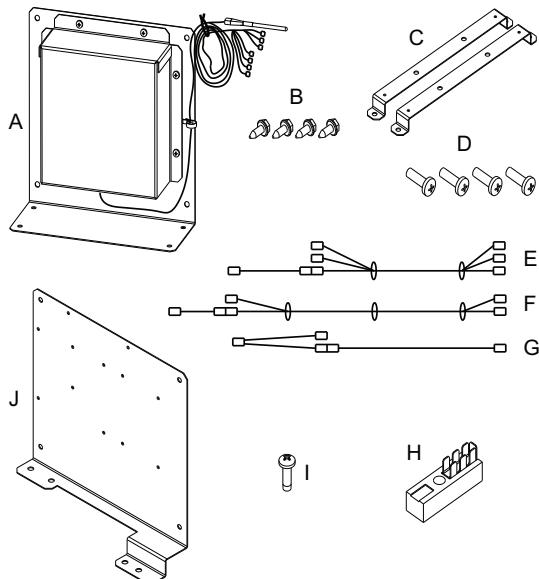
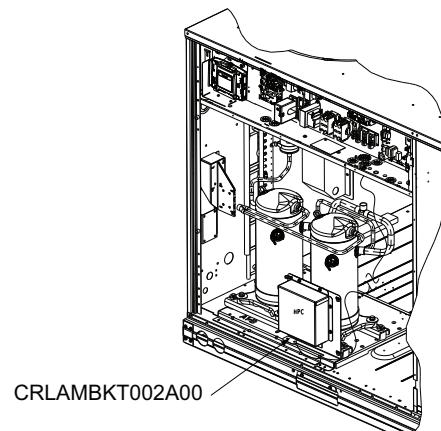

Fig. 1 — Controller Assembly Kit Details
Fig. 3 — Cabinet A — Controller Installation Locations
The head pressure control kit in this application is only to be used with an approved condenser motor. The hard start knob setting and the cut-out speed knob are to be set to minimum for proper functionality. See Fig. 1 and Table 1 for controller kit details.
7. Install the controller assembly (refer to A in Fig. 1) in the location shown in Fig. 3. Use the included self tapping screws as needed. Refer to B in Fig. 1.
9. Install High Voltage (HV) wire harness. Refer to E in Fig. 1.
10. Install Low Voltage (LV) wire harness. Refer to F in Fig. 1.
11. Install white wire harness. Refer to G in Fig. 1.